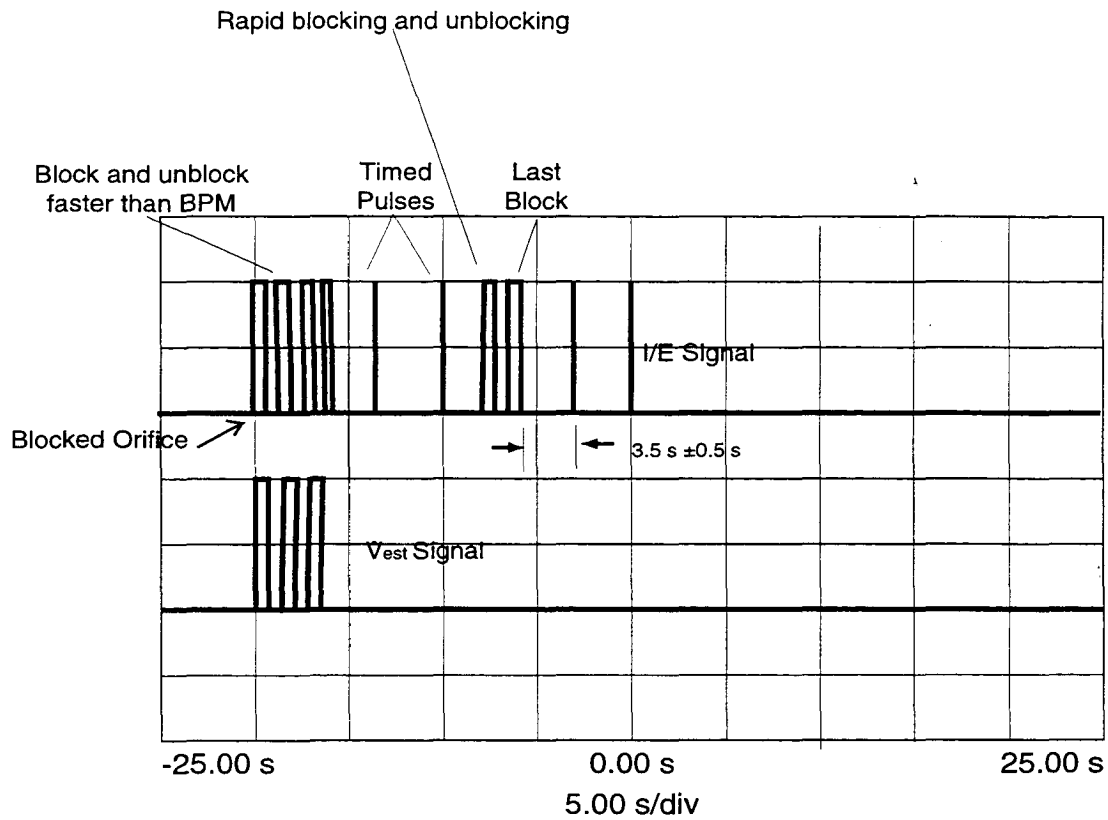

Figure 7-9. Spontaneous/Timed Mode.
- Step 2 Block and hold the orifice closed and note that the unit automatically cycles. See Figure 7-9 for oscilloscope traces. Observe that a spike occurs in the I/E state signal when the timed pulse occurs and that the Spontaneous/Timed LED illuminates.
- Step 7 Store the display on the oscilloscope when it looks like Figure 7-9. Measure the distance between 2 timed pulses (spikes). The time should be  $3.55 \pm 0.5s$ .